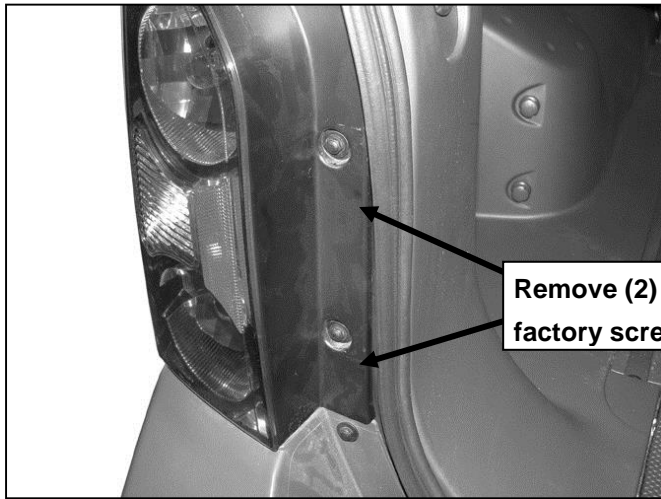

Fig 1
2. Open the rear door and remove the (2) screws holding the driver side taillight assembly to the vehicle, (**Figure 1**). Hold the taillight assembly firmly in both hands and pull straight away from the body to release the assembly from the factory clips. Be sure to pull straight out to avoid possible damage to the assembly. Do not twist or tilt the taillight during removal. **NOTE:** Refer to the owner's manual for more info regarding taillight bulb replacement for taillight removal.